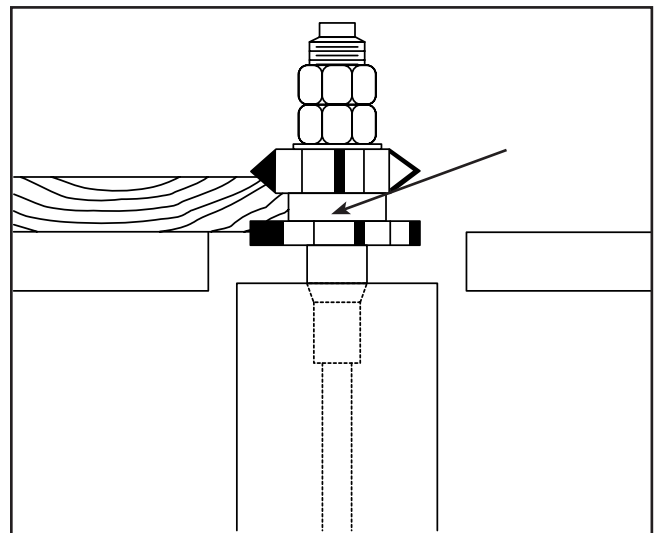

Figure 26. Rub collar between two cutters.
3. **Between two cutters:** Using a rub collar between two cutters, as in **Figure 26**, has the distinct advantage of performing two cuts at once or eliminating the need to change cutters for two different operations. Notice that part of the edge is left uncut. The uncut portion rides on the rub collar.